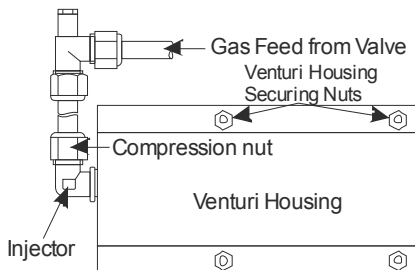

Figure 77
1. Undo the compression nut on the gas feed pipe to the injector (see **Figure 77**).